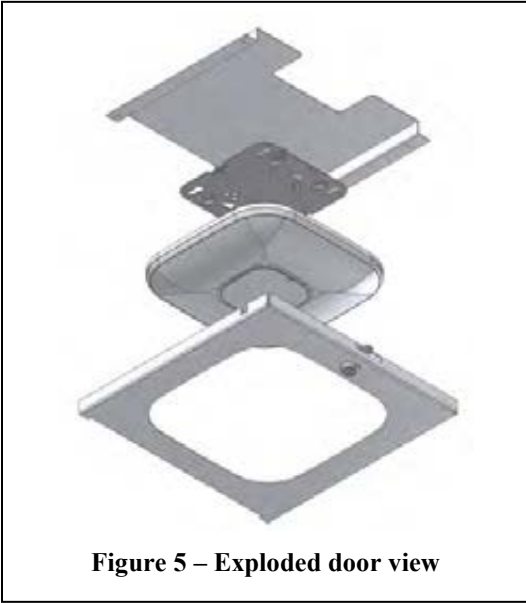

Figure 5 – Exploded door view
Step 5 –Unlock and open the door. Attach **Cisco AIR-AP-BRACKET-1 for the 1140/3500 series APs or Cisco AIR-AP-BRACKET-2 for the 2600/3600 series APs** to the door bracket with (4) #8-32 screws. Next, slide the access point onto the Cisco bracket. Secure the door bracket to the door using the (4) #10-32 nuts provided (ref. *Figure 5*).